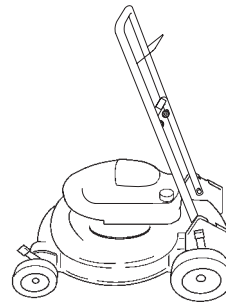

Figure 31
3. Loosen the knobs that secure the top handle section to the bottom section and fold the top handle section back toward the rear of the mower into the storage position (Fig. 31).
Note: For short term storage, place the handle in the position shown in Figure 31.